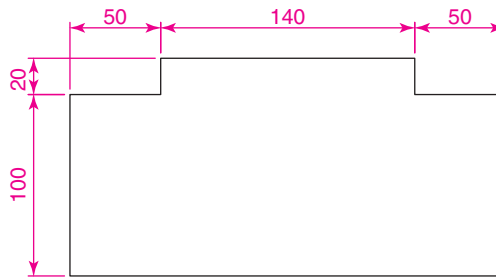

Fig. 6.8 First example – horizontal and vertical dimensions
1. Construct the outline Fig. 6.8 using the **Line** and **Fillet** tools.
First example – hor and ve (horizontal and vertical) – Fig. 6.8
1. Construct the outline Fig. 6.7 using the **Line** tool. Its dimensions are shown in Fig. 6.8.
The result is shown in Fig. 6.8.